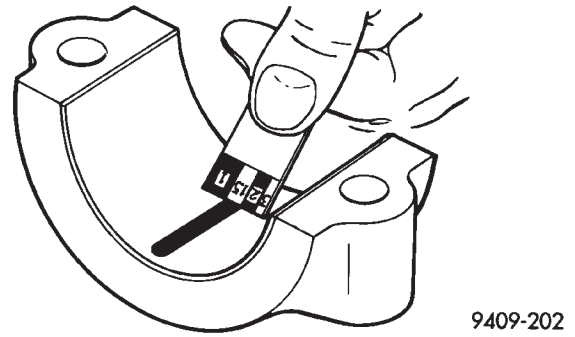

Fig. 5 Clearance Measurement
- (3) Remove the bearing cap and compare the width of the flattened Plastigage (Fig. 5) with the metric scale provided on the package. Locate the band closest to the same width. This band shows the amount of clearance in thousandths of a millimeter. Differences in readings between the ends indicate the amount of taper present. Record all readings taken. Refer to Engine Specifications. **Plastigage generally is accompanied by two scales. One scale is in inches, the other is a metric scale.**
(4) Assemble the rod cap with Plastigage in place. Tighten the rod cap to the specified torque. **Do not rotate the crankshaft while assembling the cap or the Plastigage may be smeared, giving inaccurate results.**
(5) Remove the bearing cap and compare the width of the flattened Plastigage (Fig. 5) with the scale provided on the package. Locate the band closest to the same width. This band indicates the amount of oil clearance. Differences in readings between the ends indicate the amount of taper present. Record all readings taken. Refer to Engine Specifications. **Plastigage generally is accompanied by two scales. One scale is in inches, the other is a metric scale. If the bearing clearance exceeds 0.076 mm (0.003 in.) replace bearing.**